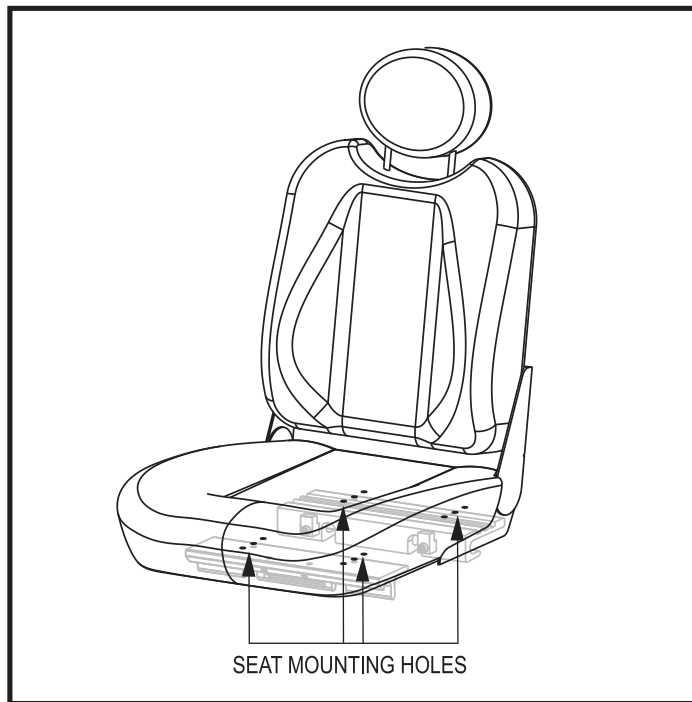

Figure 14. Seat Position Adjustment
4. Reposition the extrusions on a different set of mounting holes. You must move both extrusions the same number of holes either forward or backwards. See figure 14.